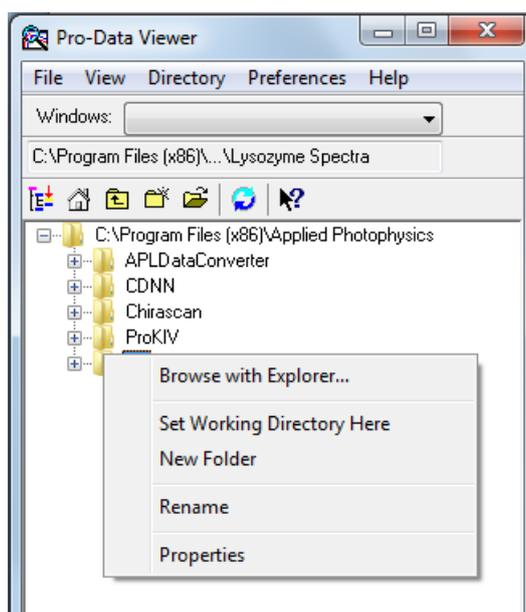

Figure 2.2: the Pro-Data Viewer file browser
5) Start Pro-Data Viewer program using the Viewer  icon on the Pro-Data Viewer toolbar. Navigate in the Pro-Data Viewer file browser (Figure 2.2) to your preferred save directory and right click on it selecting **Set Working Directory Here**. New data files will now automatically be saved in this directory.